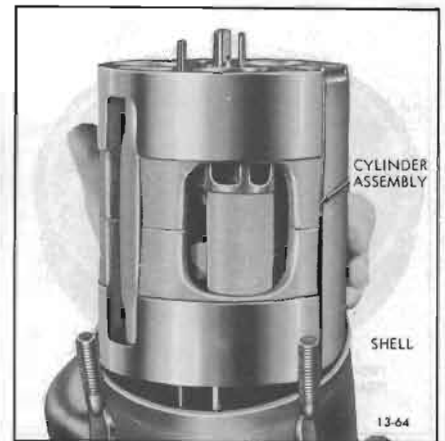

Figure 13-64—Removing Cylinder Assembly
2. Push shaft upward from front head and lift out cylinder assembly (see Figure 13-64), front suction valve reed disc, and front discharge valve plate.